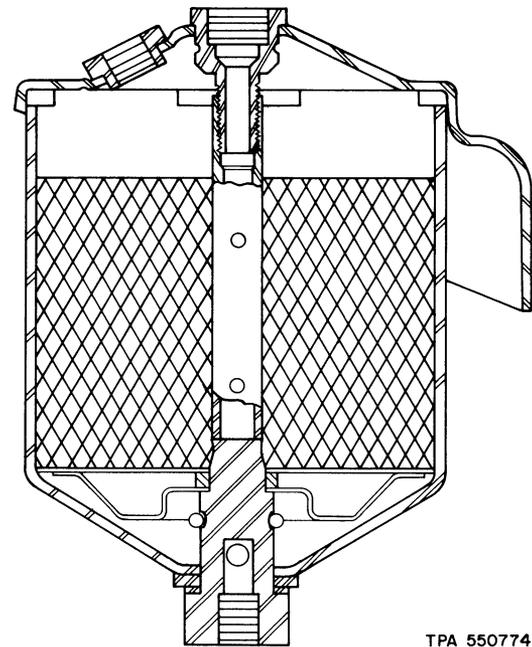

Fig. 6—Air Box Drain Tank Cutaway View
3.13 Air Box Drains and Tanks (Reqt 2.13): The drain tubes should be open at all times since a clogged or plugged tube will prevent the discharge of water vapor and oil fumes. To clean the tubes, disconnect them from the tanks and cylinder block and blow them out with compressed air. The tanks should also be cleaned using a KS-14666 cloth. Reconnect tubes, making sure all joints are tight. If the set is equipped with an immersion heater, air box draining may be facilitated by using a small, flexible, plastic cup or allowing the drippings to drain into a cloth which must be removed after each draining. See Fig. 6.